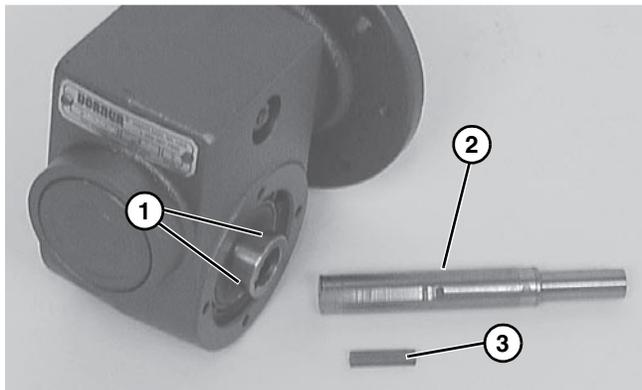

Figure 13
- Loosen set screws (**Figure 13, item 1**) and remove gear reducer output shaft (**Figure 13, item 2**) and key (**Figure 13, item 3**).
- Insert the new shaft (**Figure 13, item 2**) and key (**Figure 13, item 3**) into new gear reducer. Tighten set screws (**Figure 13, item 1**) to 35 in-lb (4 N-m).